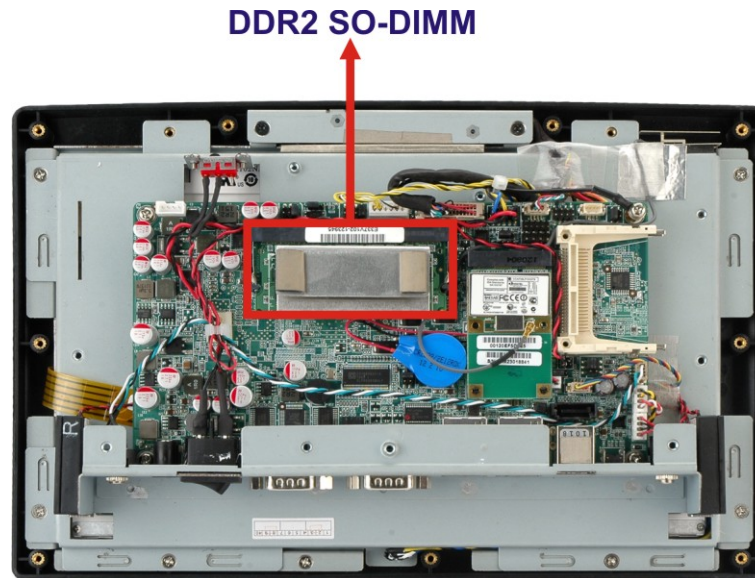

Figure 3-4:AFL-W10A-N270 SO-DIMM Socket Location
Step 2: Locate the DDR2 SO-DIMM on the motherboard (**Figure 3-4**).